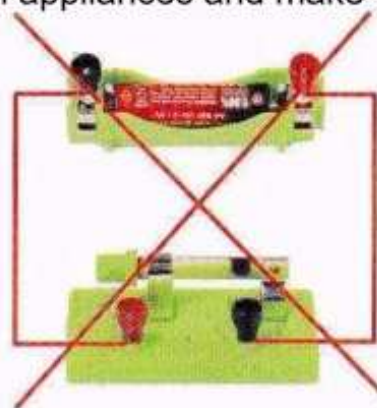

Figure 1-3: Incorrect connection method, the switch is closed and causes a short circuit
2. Why is the connection method shown in Figure 1-3 wrong? What will be the consequences? Think about and summarize the three states of the circuit.
The circuit diagram corresponding to Figure 1-3